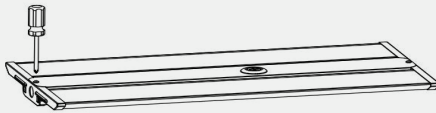

Figure 7
Step1. Unscrew the two screws on the front of the lamp; (Figure 7)